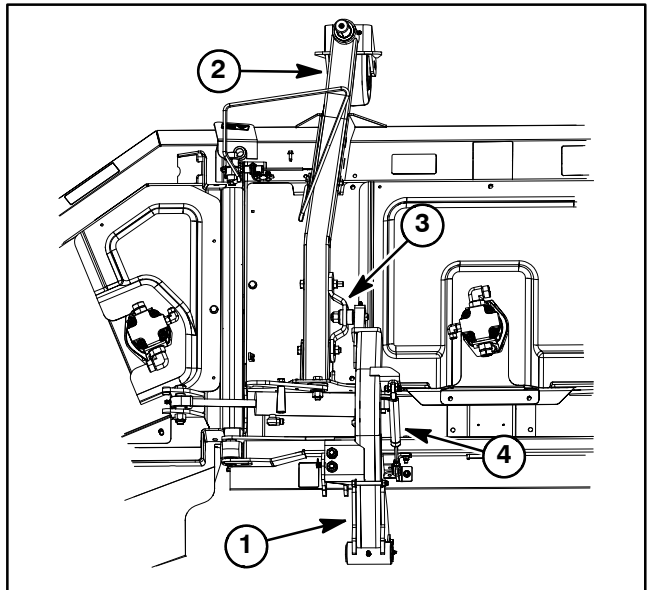

Figure 5
7. Position damper to cutting deck bracket. Place spacer between cutting deck bracket and damper clevis end. Secure damper to bracket with spring pin (Fig. 5).